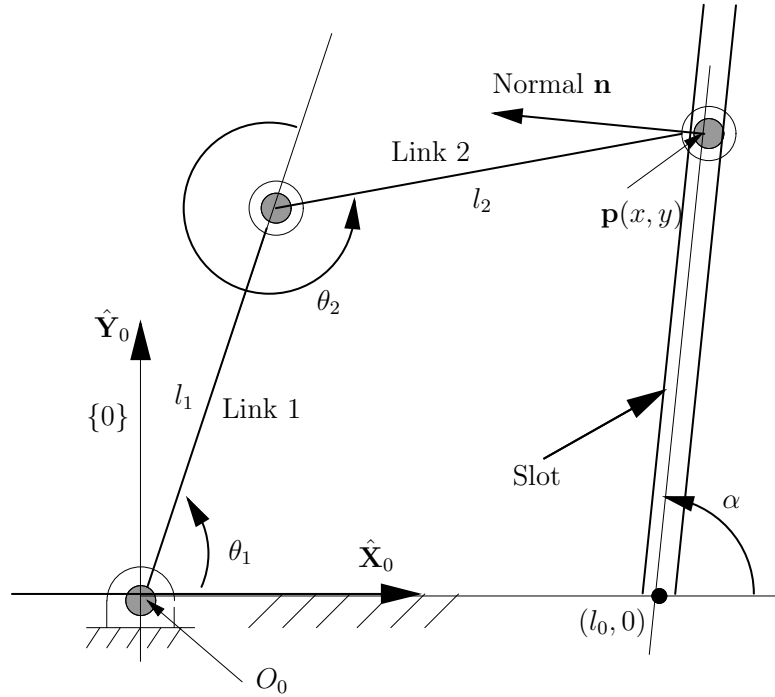

Figure 1: A planar 2R manipulator
- [P7.17] The tip of a planar 2R manipulator is to move along a slot as shown in Figure 1. Following the developments in Lecture 4 determine